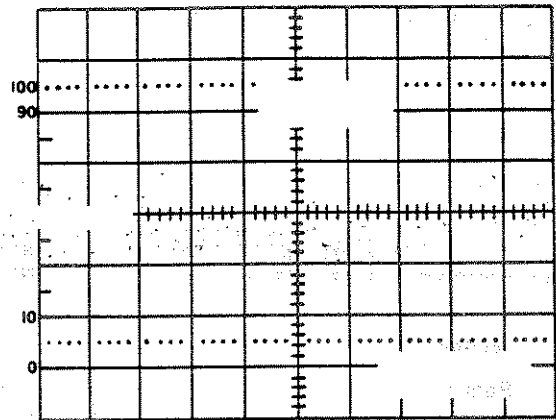

Figure 32. Time difference between repetitive pulses.
4. Using the Δ TIME control and observing movement of the B Sweep waveform, move the time-measurement point to the second pulse (Figure 32, Point B).
1. Position the two traces approximately as shown in Figure 32.
2. Using the DELAY TIME POSITION control, move the reference point to the first pulse (Figure 32, Point A).